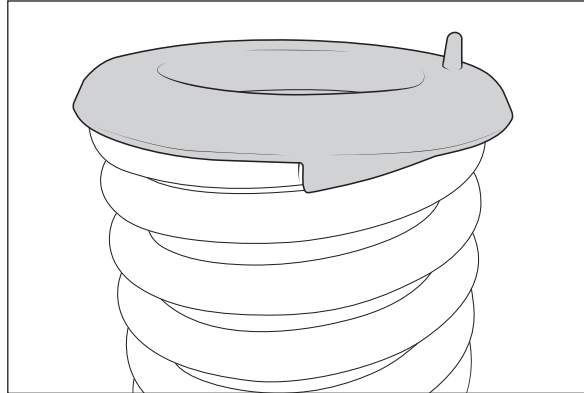

Figure 8
12. Install the factory spring isolator to the top of the AEV spring (fig. 8). Be sure the spring is properly seated into the notch on the isolator. Lower the axle until the isolator and AEV spring can be installed, again being careful not to stress the brake hose or ABS wiring. Now that they're unbolted from the frame they can be flexed slightly. Be sure the molded post on the isolator goes into the hole in the spring pad at the frame for proper orientation. Raise the axle to keep the spring in place.